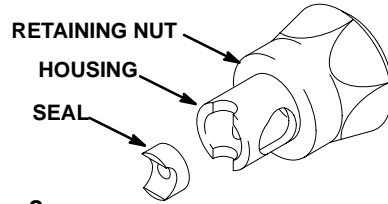

Fig. 8
2. Install the metal seal in the housing, flat side first. See Fig. 8.